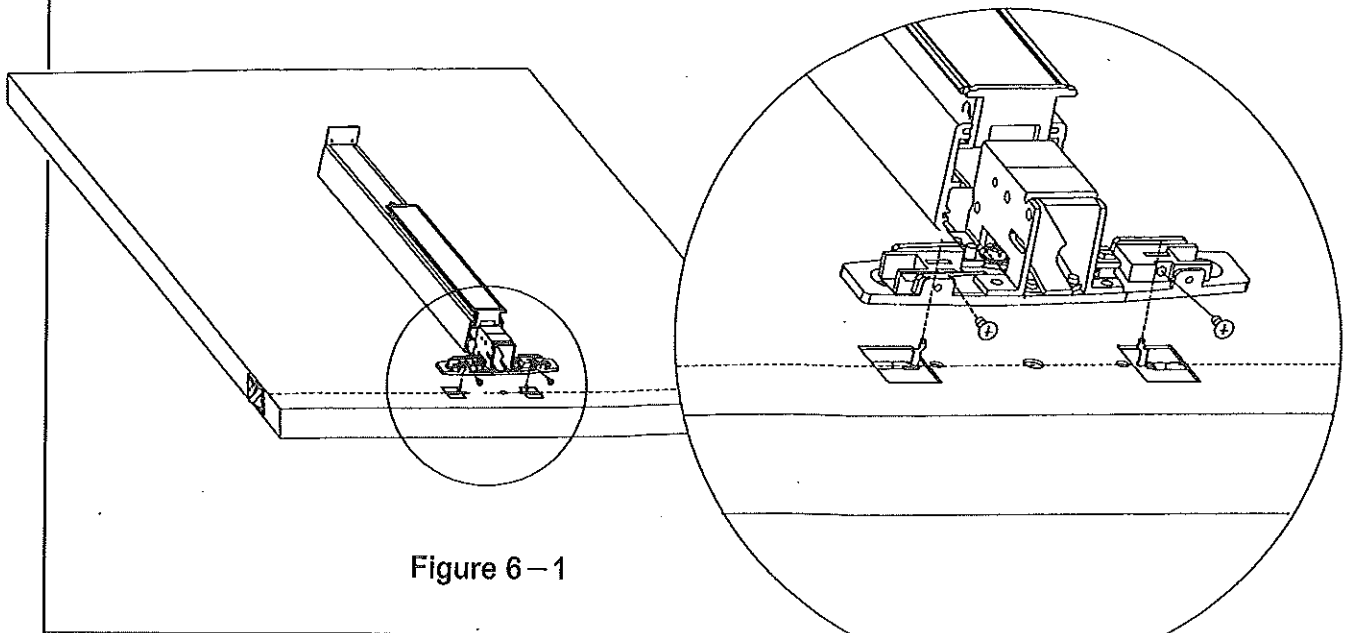

Figure 6-1
2. Lay device in place on door and have top and bottom Latch Actuated Shafts insert into X, Y positions on chassis assembly then fasten with supplied screws. (See Figure 6-1.)